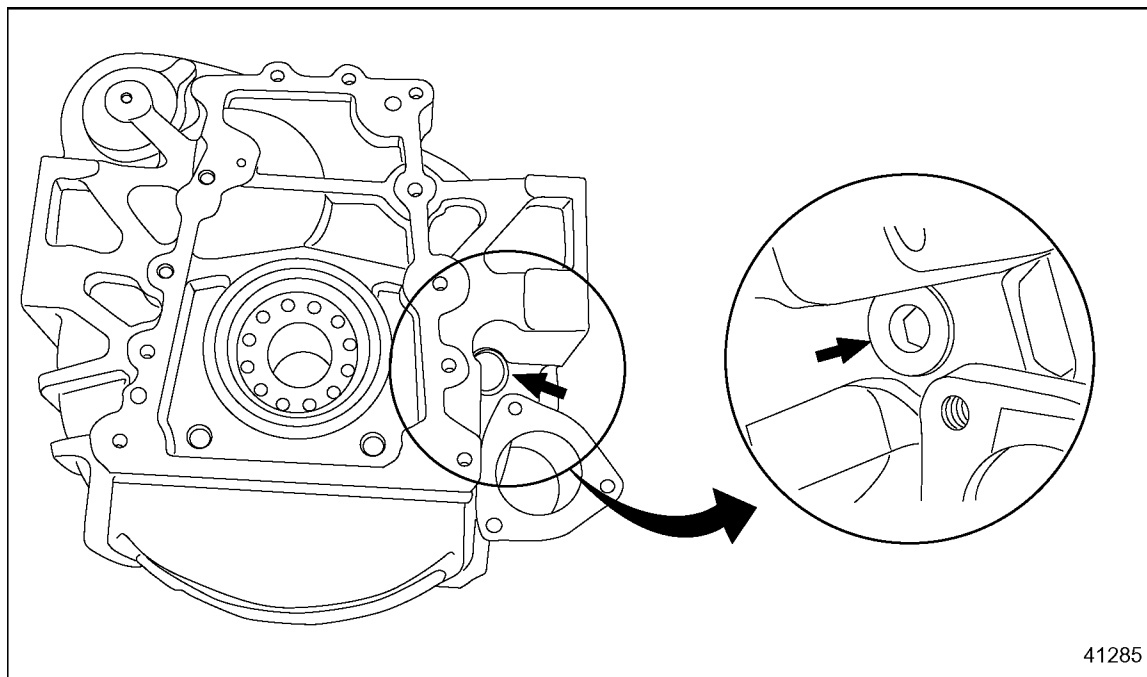

Figure 9-6 Installation of Pipe Plug Above Cranking Motor Mount
- [a] Install the pipe plug above the cranking motor mount on the REPTO flywheel housing. See Figure 9-6.